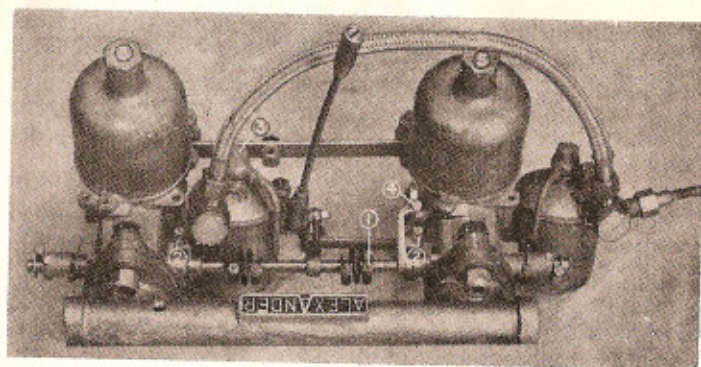
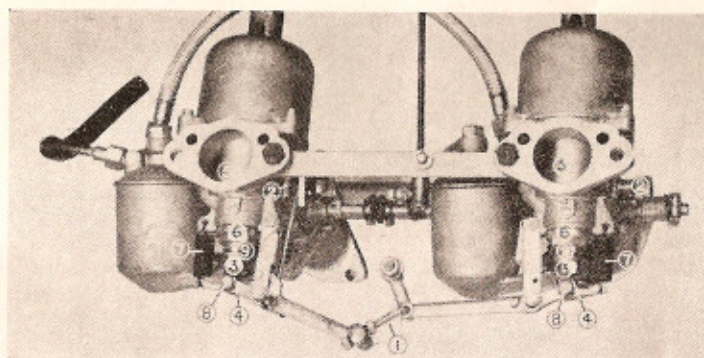

FIGURE 24
FIGURE 25
2. Slacken one of the clamping bolts on the throttle spindle connections (1) Fig. 24, so that the throttles may be set independently.
3. Ensure that the throttle adjusting screws (2) Fig. 24, are holding the throttles slightly open. About one-and-a-half turns from being clear of the abutments. Disconnect the mixture control rod (1) Fig. 25.
4. The choke control screw (4) Fig. 24, should be clear of its abutment and the choke cable disconnected if it is likely to interfere with adjustment.
6. With a downwards pressure on the throttle adjusting screw (2) Fig. 24, adjust each until the "hiss" is equal and the speed 500 rpm. To reduce "hiss" unscrew the adjusting screw.
9. Check the mixture strength by lifting the piston off the front carburettor using the lifting pin (2) Fig. 25, approx. 1/32in. (1.75mm.) when if:
10. Carry out a similar check on the rear carburettor and if adjustments to mixture strength are necessary, it can be varied by screwing or unscrewing the jet adjusting nuts (3) Fig. 25. To enrich the mixture the nut should be screwed down and to weaken it screw the nut up. During this adjustment it is necessary to ensure that the jets (4) Fig. 25, are pressed upwards so that they are in contact with the adjusting nuts. When the adjustments are satisfactorily completed the exhaust note should be regular and even.
When the piston (5) Fig. 25, is lifted by hand with the engine not running and the jet adjusting nut screwed up fully it should fall freely and come into contact with the jet bridge with a soft metallic click.
The jet nut which is clamped in position by the gland nut (6) Fig. 25, is located in a clearance bore which permits a limited amount of float when the gland nut is slackened. Therefore, it can be moved until it is concentric with the jet needle allowing the piston to fall freely to its lower position. To re-centralise proceed as follows:—
2. Remove the return springs (7) and pivot pins (8) Fig. 25, move the linkage out of the way.
3. Remove piston dampers (5) Fig. 24.
4. Withdraw the jet (4) Fig. 25, and remove the adjusting nut (3) and springs (9) Fig. 25.
7. Hold the jet in its upper position and move the jet assembly laterally until the jet is concentric with the needle, then tighten the gland nut. When the correct condition is achieved the piston assembly will fall freely hitting the jet bridge with a soft metallic click, and replace the spring (9), adjusting nut (3), jet (4), pivot pins, damper unit, etc., and replenish the dash pots (5) Fig. 24. with oil of S.A.E. 20 viscosity. The oil level is correct when using the damper as a dip stick, its threaded portion is approx.
1. Disconnect the fuel pipe and remove the float chamber lid securing bolt (3) Fig. 24—lift off the lid.